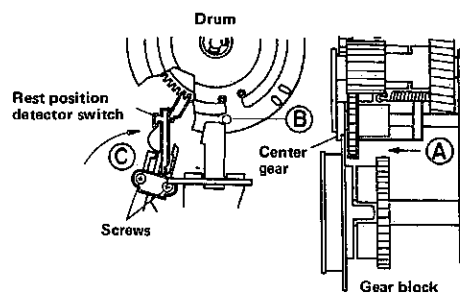
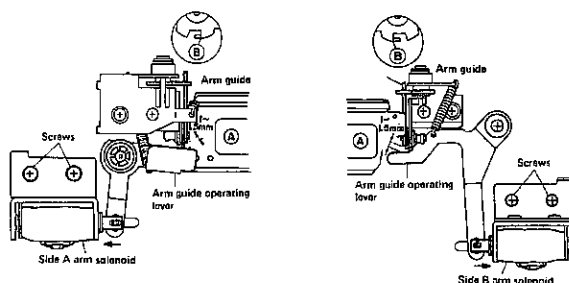

Figure 16-2
Figure 16-3
1. Push the gear block's center gear in arrow (A) direction shown in Fig. 16-2, and turn the drum so that its point (B) shown in Fig. 16-2 is in the position shown in Fig. 16-3.
3. Turn the rest position detector switch in arrow (C) direction shown in Fig. 16-2, and stop it at where it switches on touching the drum projection.
2. Secure the screws so that there is a clearance of 1 to 1.5 mm at the port (A) shown in Fig. 16-3, between the tonearm guide and arm guide operating level: then, the arm (B) must be at down position as shown in Fig. 16-3.